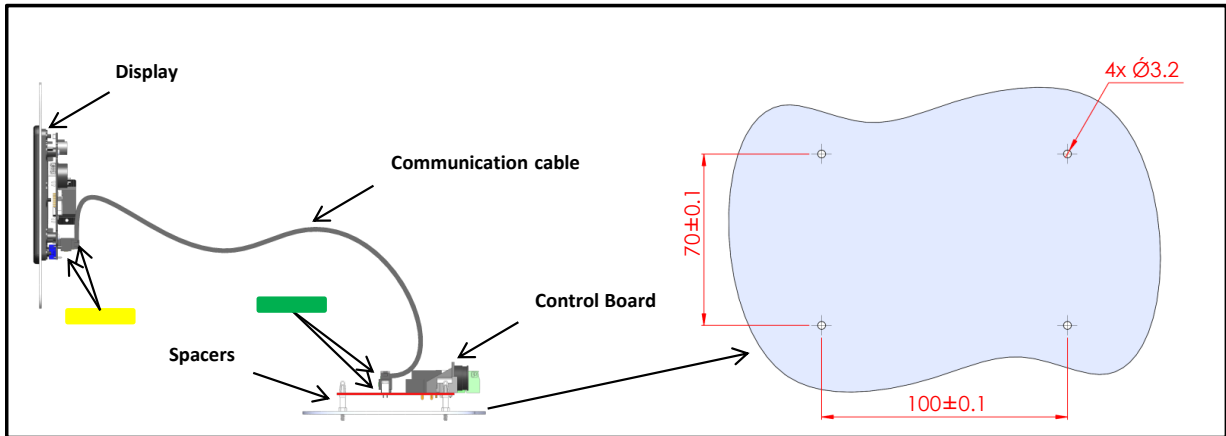
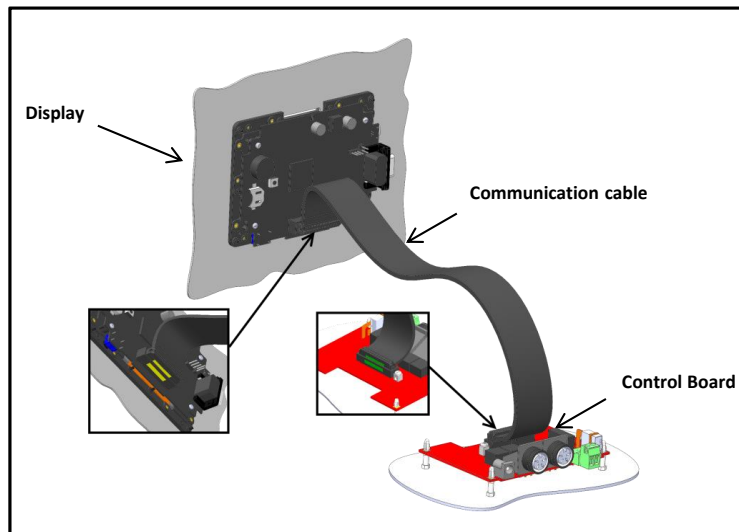

Figure 83. System Lateral View and holes dimensions on the support
Figure 84. System 3D View
**Note** ► Follow the color code carefully in order to assembly the Communication cable, see Figure 83 and Figure 84. Incorrect wiring might break or damage the H401-T-CONTROLLER-OEM.
5. Mount the control board on a support by the spacers as shown in Figure 83. Spacers holes dimensions are indicated in Figure 83.
The final configuration is the one shown in the 3D View of Figure 84.